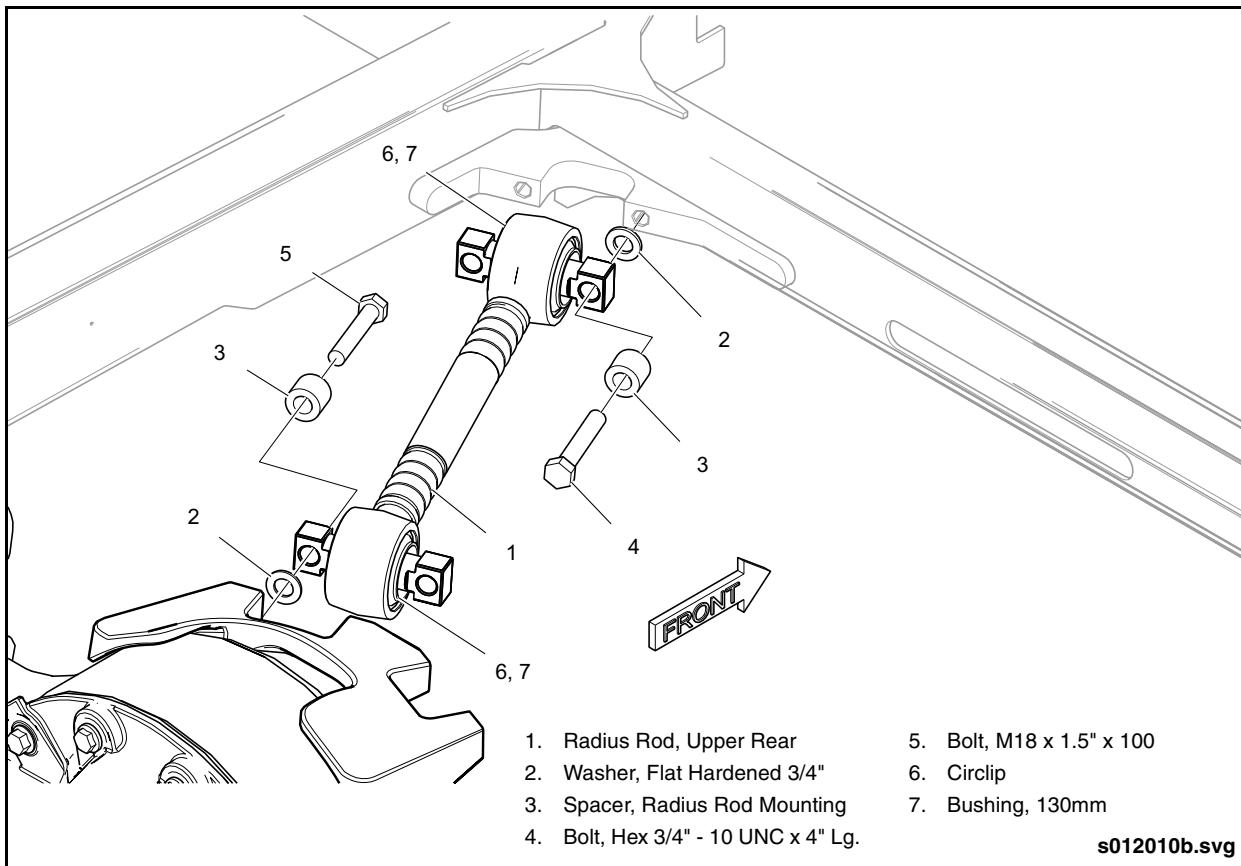

Fig. 2-103: Upper Radius Rod Removal & Installation
2. Remove the radius rod mounting bolts while taking note of the spacer and washer locations and quantity. See "Fig. 2-103":